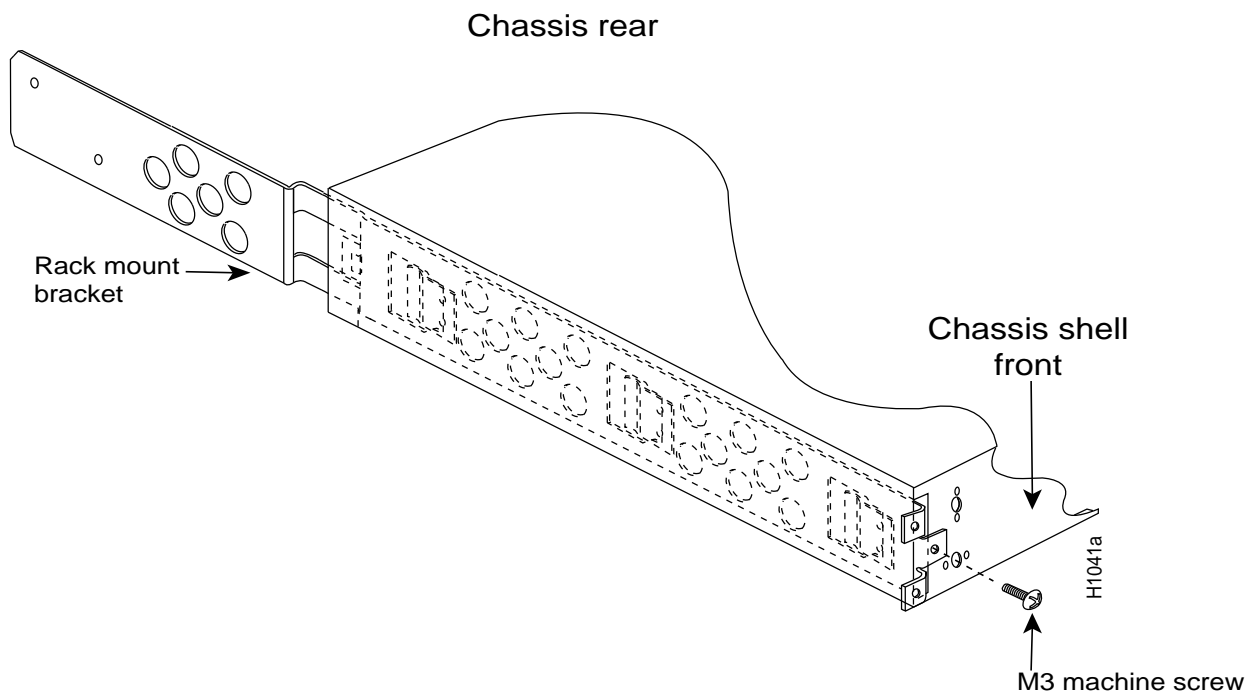

Figure 7 Rack-Mount Bracket Insertion (Front View)
Step 2: On the chassis shell, insert one rack-mount bracket through the slot on each side of the front and rear of the shell, sliding the rack-mount brackets straight into the shell's inner brackets (see Figure 7).